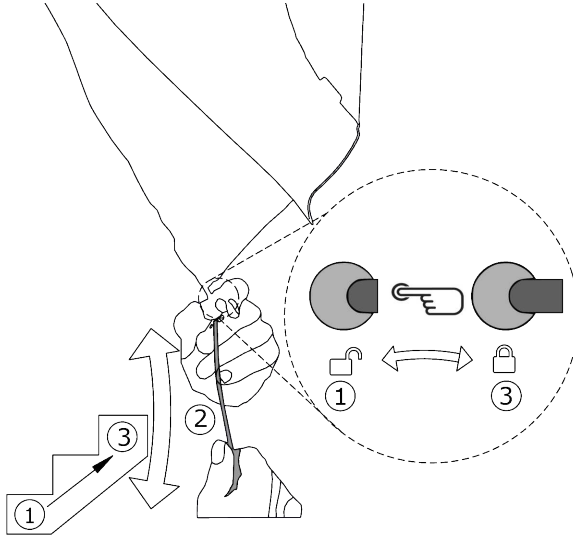

Figure15
3. Adjust the Face Seal fit with the pull cord by pressing on the lock and adjusting the cord length until a tight fit is achieved between your face and the Face Seal (Fig 15).
4. Adjust the Face Seal fit with the pull cord by pressing on the lock and adjusting the cord length until a tight fit is achieved between your face and the Face Seal (Fig. 15).
6. Fit check the Face Seal and adjust tightness for best seal and comfort (Fig. 15).